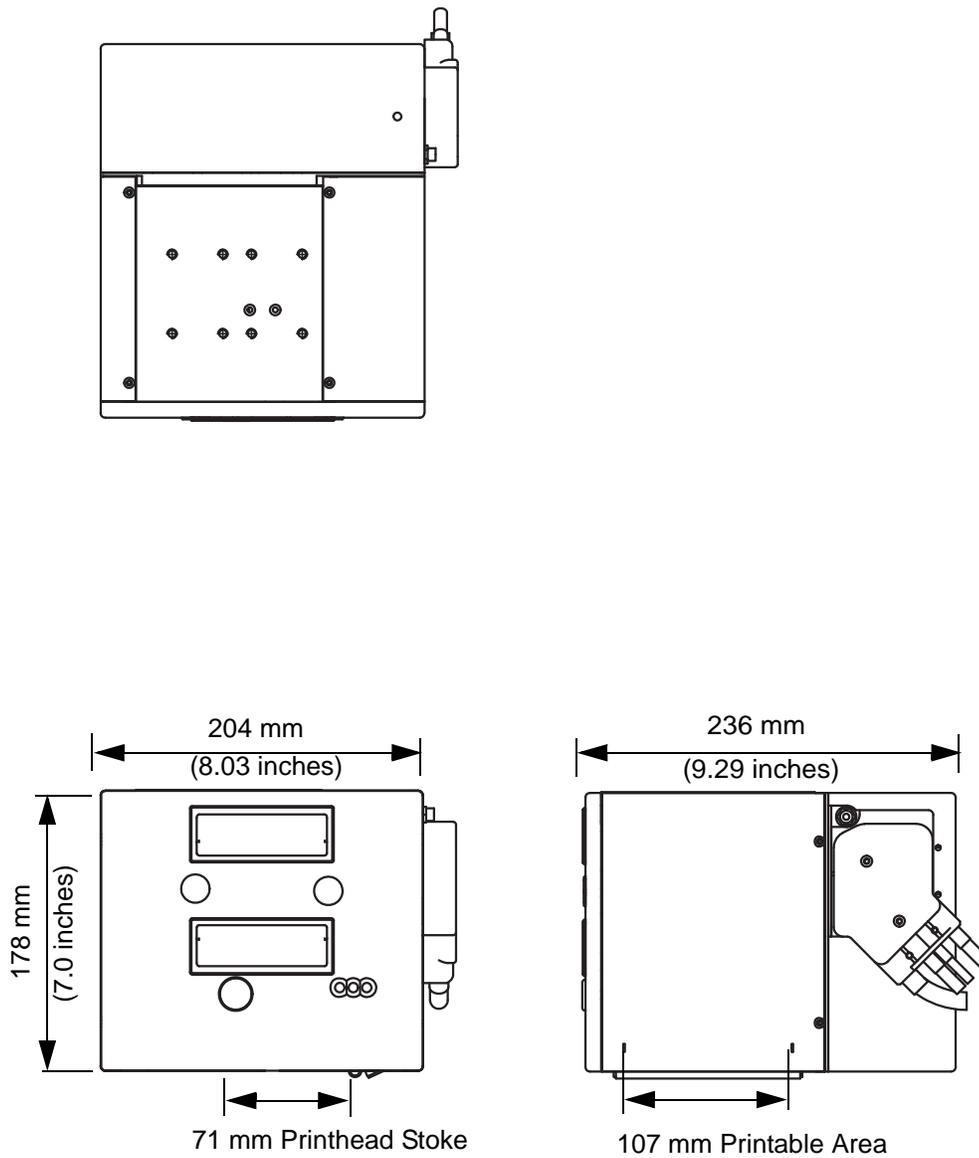

Figure 7-4: Videojet DataFlex 6420 107 mm LH Printer Dimensions
Figure 7-4 shows the dimensions of the 107 mm (LH) printer.